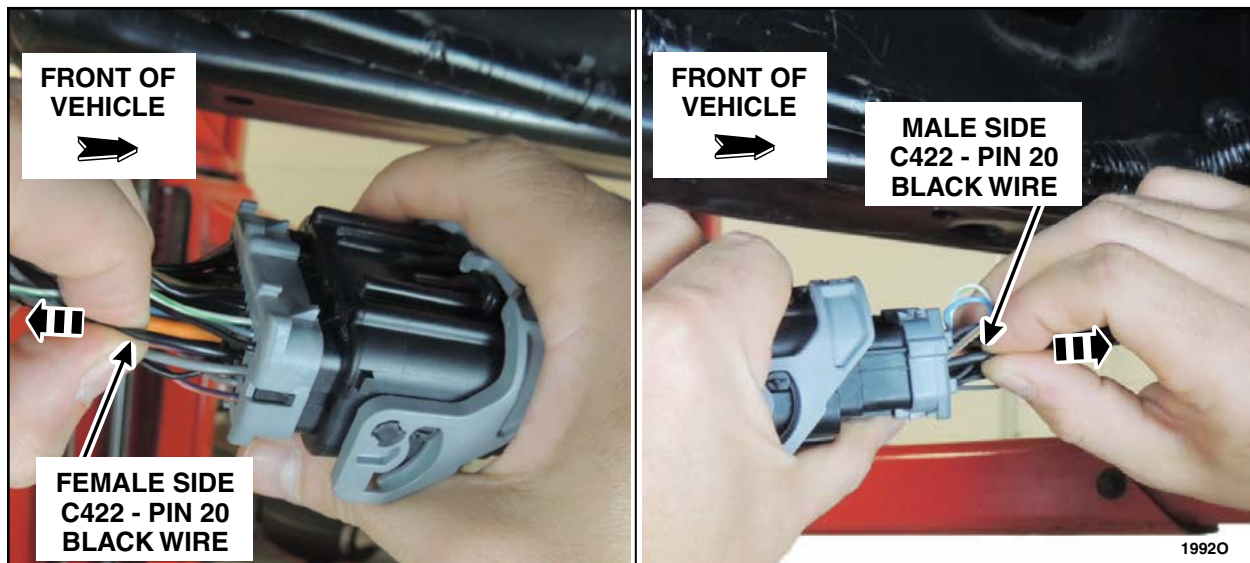

FIGURE 11
11. At connector C422, using your fingers pull outward on pin 20 (BK wire) on both sides of the C422 connector. Only apply enough pulling force to ensure the terminal is locked into the connector. Listen for the volt/ohm meters audible tone to either stop or intermittently break up as you pull on pin 20 (BK wire). If the terminal pulled out of the connector hard shell or the meters audible tone stop or intermittently broke up, record the side of the connector and the pin number on the repair order. Whether or not the terminal pulled out of the connector hard shell proceed to the next Step. See Figures 11, 12 and 13.